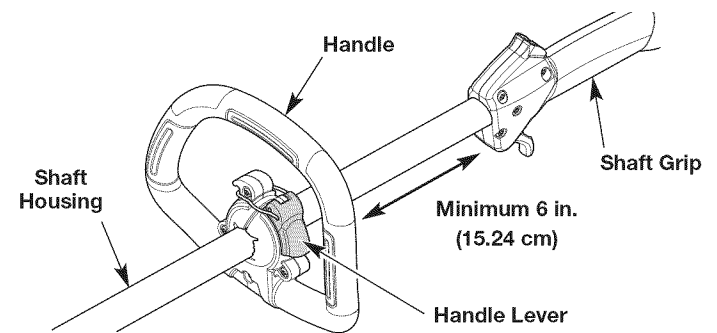

Fig. 2
1. Flip the handle lever up to loosen the handle (Fig. 2).
2. While holding the unit in the operating position (Fig. 10), move the handle to the location that provides the best grip. Place it a minimum of 6 inches (15.24 cm) from the end of the shaft grip (Fig. 2).
3. Tilt the handle as desired (Fig. 2).